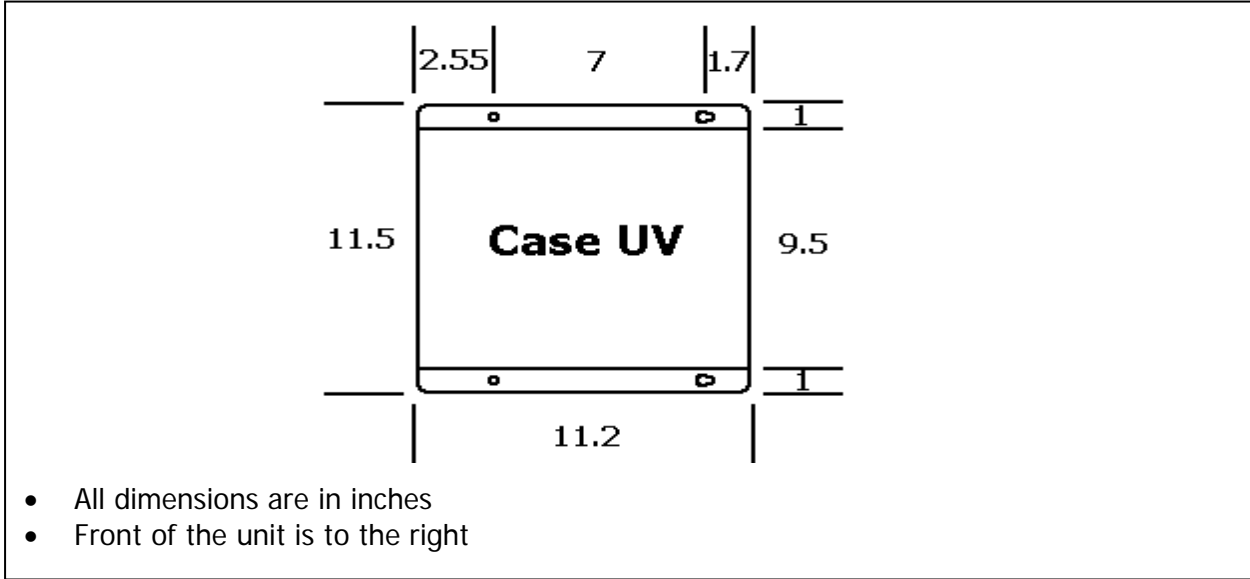

Figure 2: SPS footprint
- Locate the mounting holes on the chassis flanges and fasten them using ¼ inch diameter screws to secure the inverter. See figure 2, page 9.